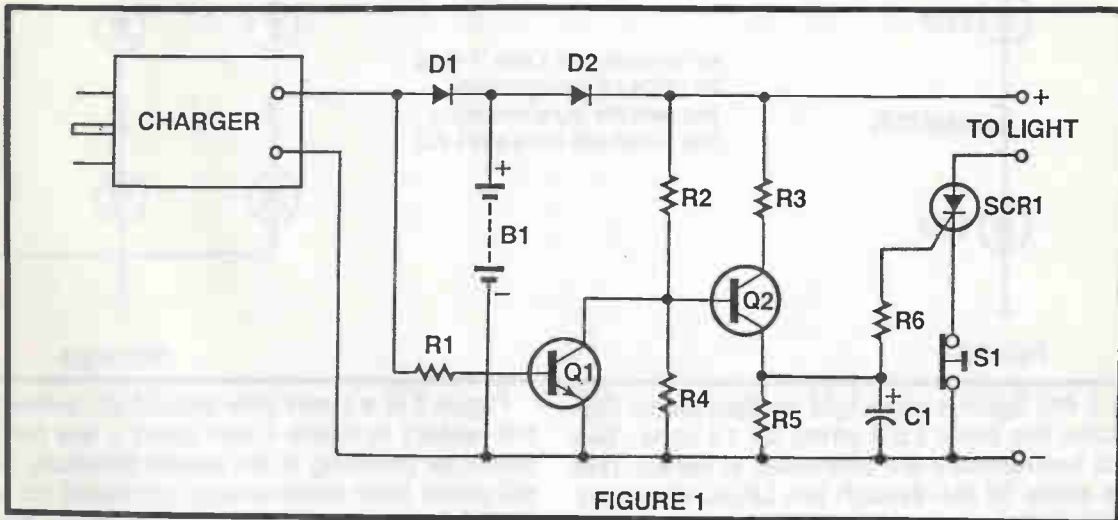

FIGURE 1
PARTS LIST FOR FIGURE 1:
Our first power supply is shown in Figure 1. This is for true emergency systems since it uses a battery and charger. The circuit sits on a standby mode as long as the charger is receiving 110 volt power. The charger keeps trickle charging the batteries.
Figure 5 is a clever little circuit that connects across the battery in figure 1 and takes a few milliamps of power for powering 9 volt smoke detectors. Since this will power them continuously, you would not need batteries. Save the rechargeable one in the main power supply. Make sure that the current drain for the smoke detectors is less than half the trickle charge current.
Step 2. (Refer to Fig. 1). Punch two small holes in the coil form $\frac{1}{4}$ inch apart and $\frac{1}{2}$ inch from the end. Pass 6 inches of the 22 AWG coil wire through one hole from the outside and back through the other. Repeat this process once more and pinch the resulting loops with pliers to secure the coil lead.